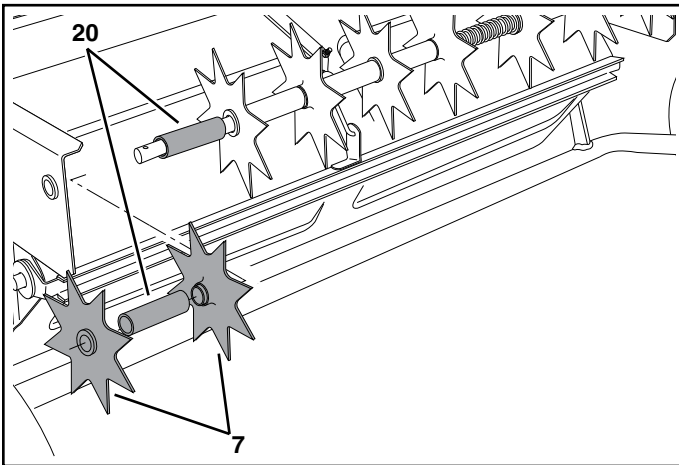

FIGURE 21
- Place a long spacer tube (20) onto the shaft.
- Place two spike disks (7), separated by a long spacer tube (20), onto the shaft. Fit the long spacer tube onto the ends of the flanged bearings in the disks. See figure 21.